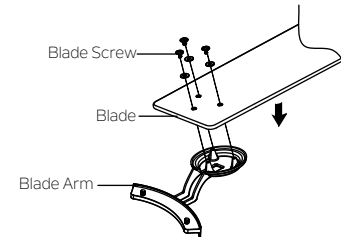

Fig. 17
**Step 1.** Position the blade over the blade arm with threaded posts showing. Make sure the bottom edge of the blade is fully seated against the blade arm. With a Philips screwdriver, start a blade screw and washer into the blade arm (do not tighten) and repeat for the 2 remaining blade screws and washers. Tighten each screw securely starting with the center screw. Make sure the blade is straight. Repeat steps for the remaining blades. (Fig. 17)